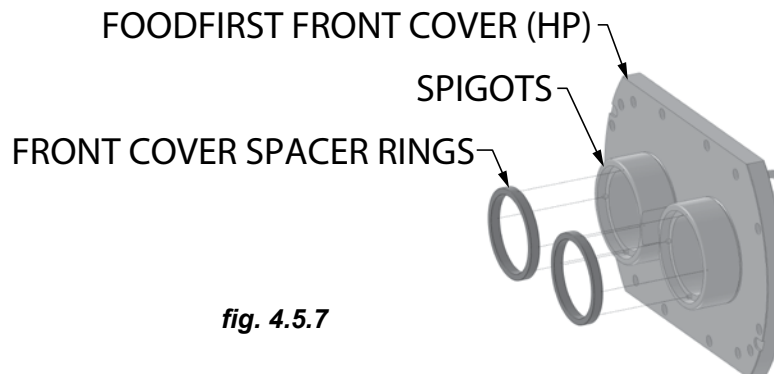

fig. 4.5.7
4.5.2.4.2 FoodFirst Front Cover Spacer Ring Removal- High Pressure (HP) Cover (ref. fig. 4.5.7)